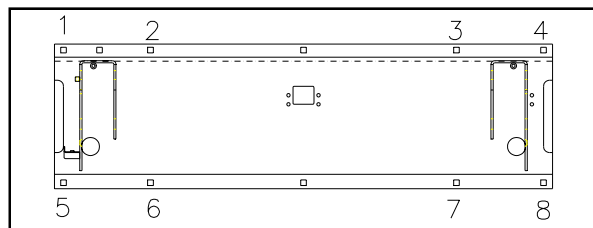

FIGURE 2-8: BUS BASEPLATE HOLES
- b. Refer to **Figure 2-8**. Mark and drill eight 25/64" baseplate assembly mounting holes (1 thru 8) through vehicle floor.